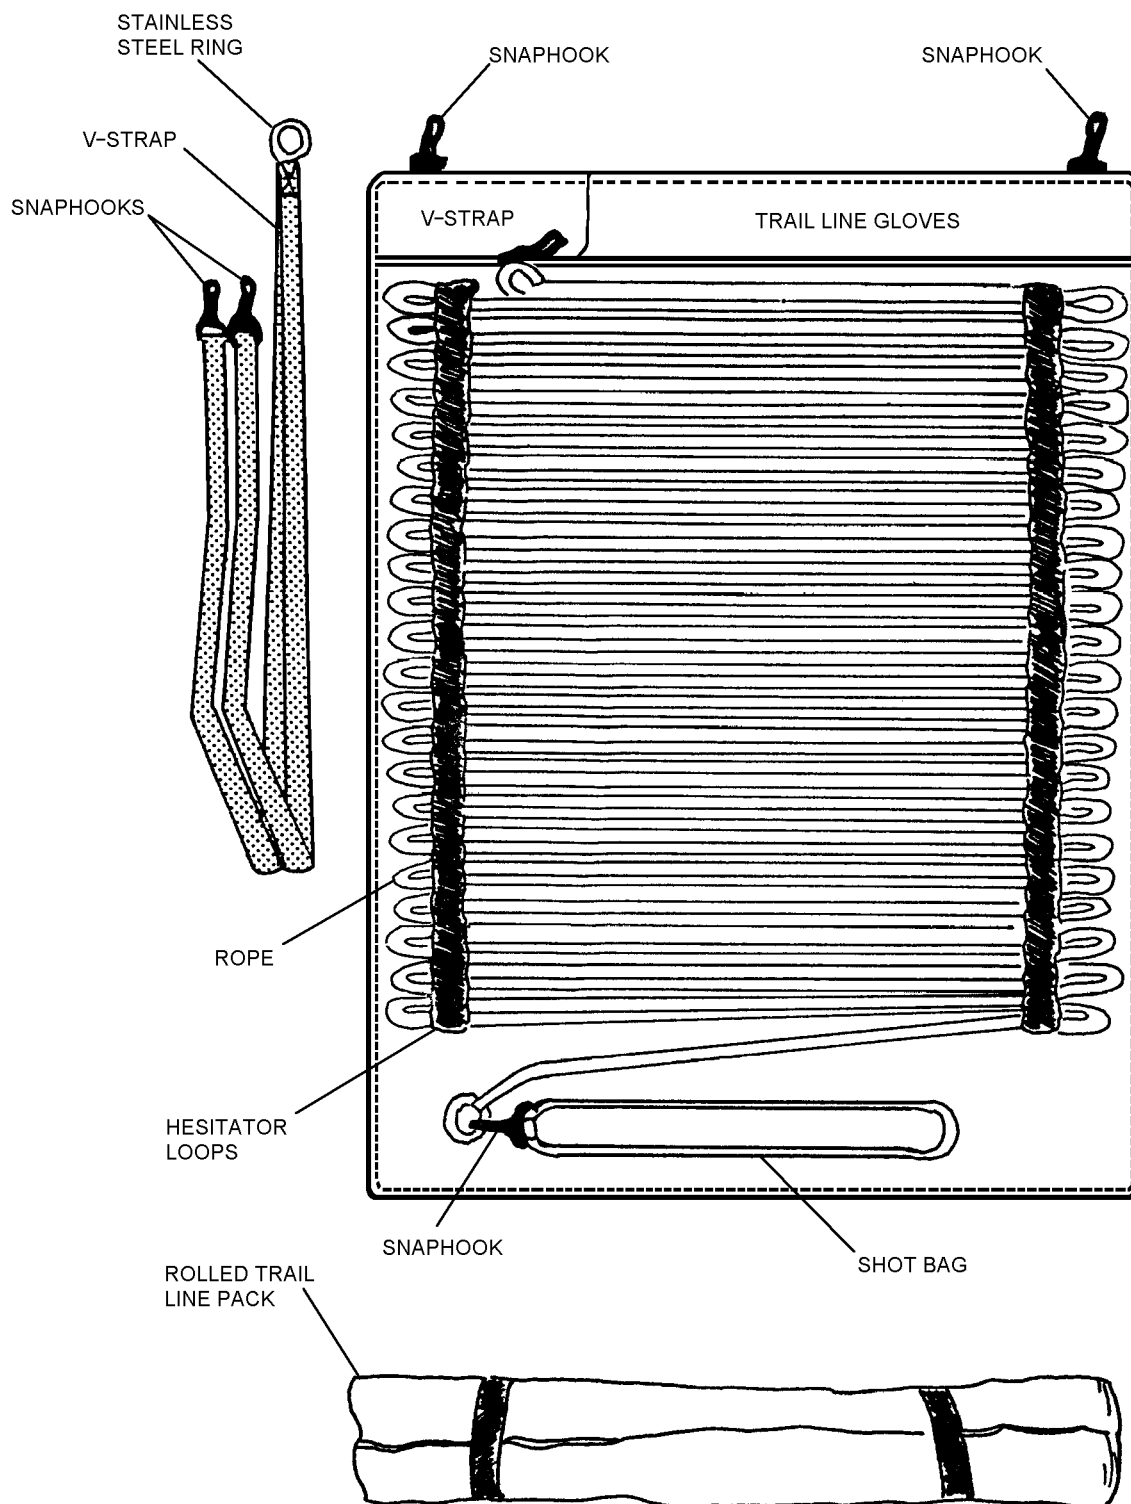

Figure 14-23. Trail Line Assembly
- 1. Stow rope in hesitator loops as shown in figure 14-23.